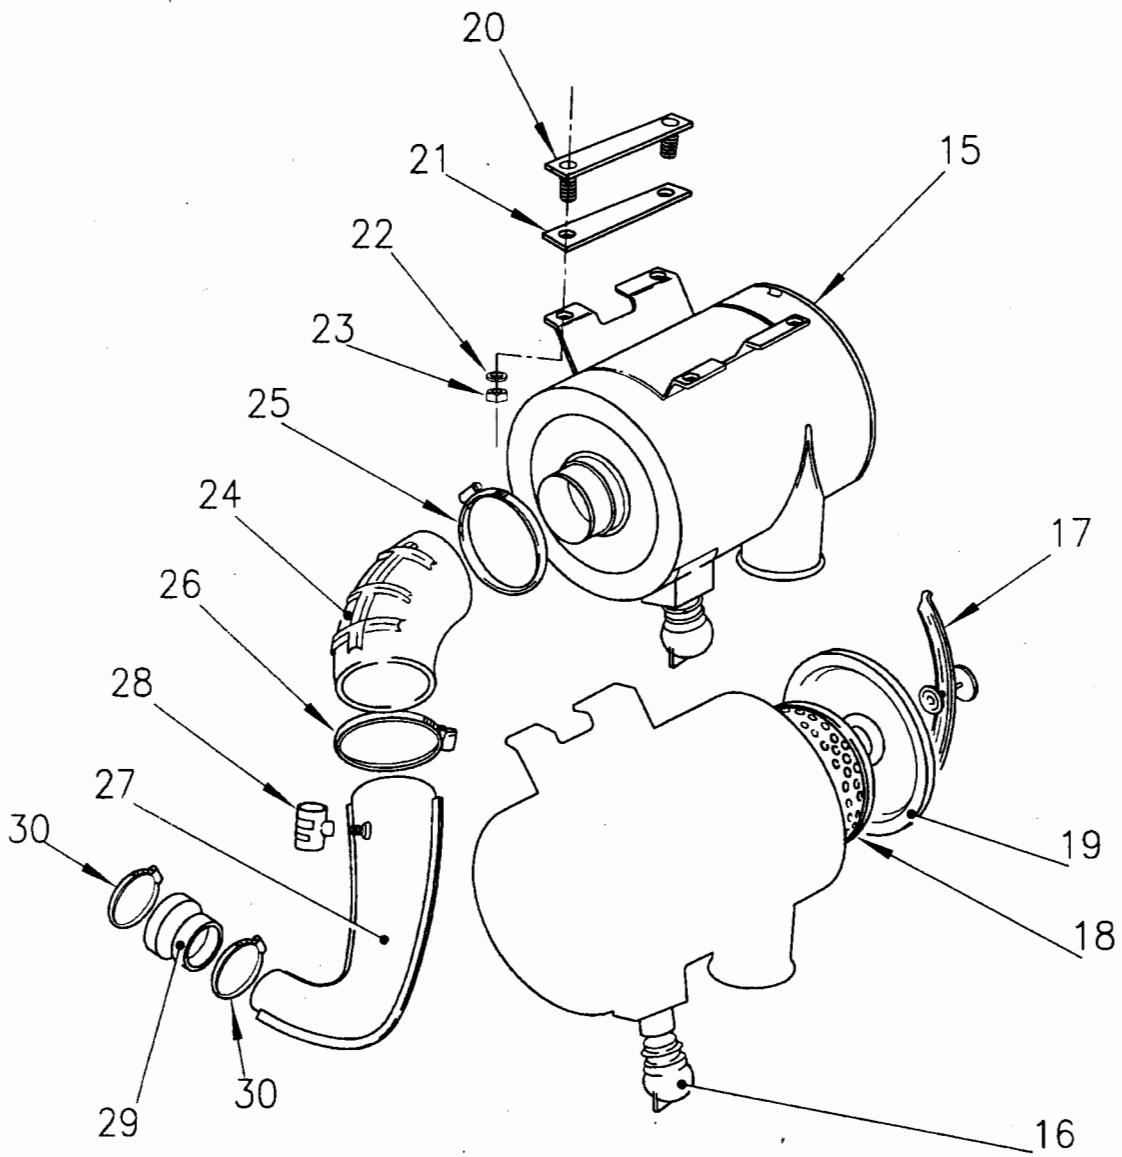
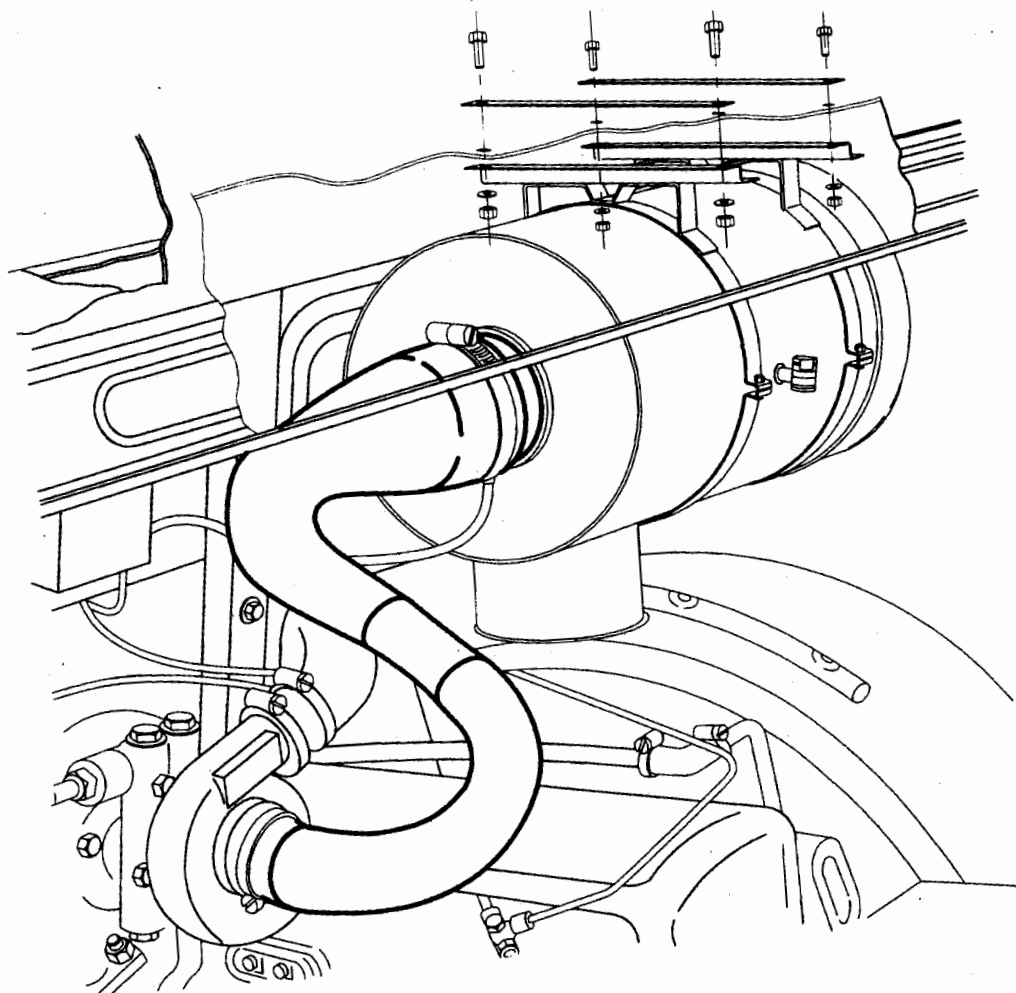

Fig 2 Details of Old Air Cleaner
Fig 3 New Air Cleaner
9.2 The new engine air cleaner assembly (See Figs 3 & 4) can be fitted as follows:
Assemble the two mounting bands (item 11) to the air cylinder (item 2), adjust and tighten the clamp screws. Locate the four mounting holes in the underside of the parcel shelf vacated by the old air cleaner and align the brackets (item 6) as shown in Fig 3. Locate the four mounting holes from the top of the parcel shelf, align the supports (item 13) as shown and secure with the four bolts, nuts and washers (items 8, 9 & 10). Connect the hose (item 5) using jubilee clip (item 7) to the existing connections vacated by the hose (see item 29, Fig 2) and new cylinder (item 1) using jubilee clip (item 12).